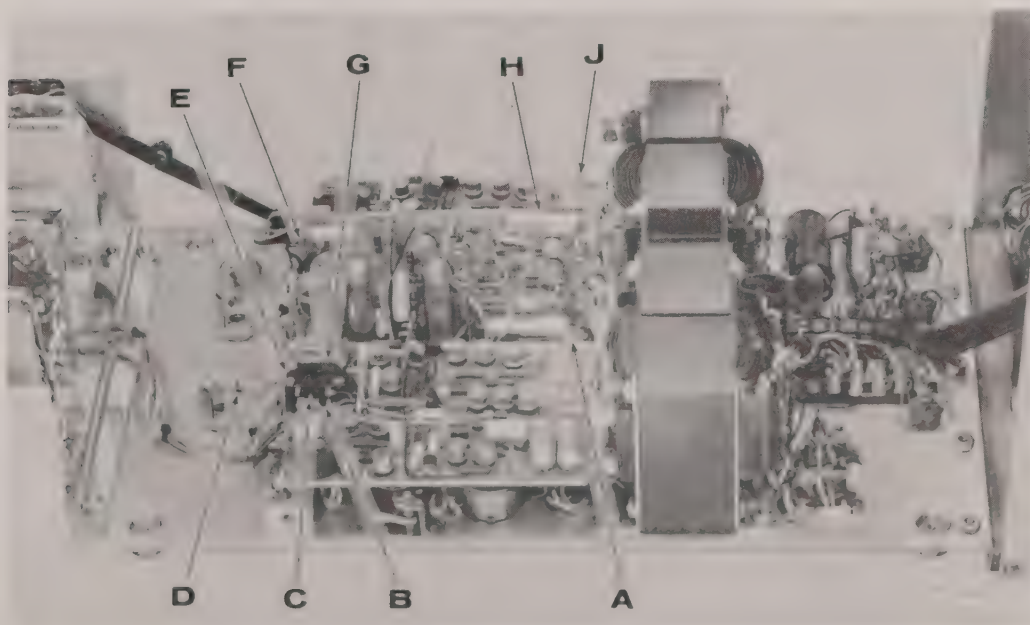
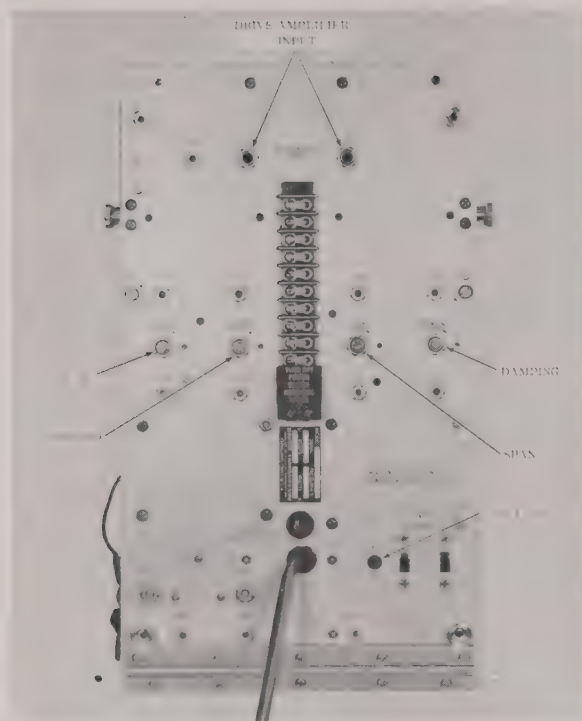
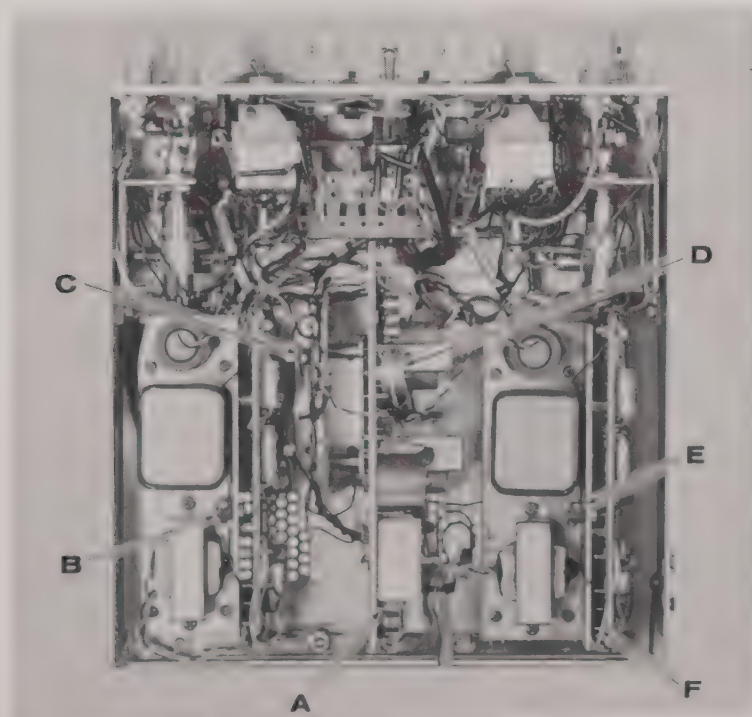

FIGURE 7-1 PRELIMINARY ADJUSTMENT POINTS AND POWER SUPPLY POINTS
FIGURE 7-2 REAR PANEL CALIBRATION POINTS
FIGURE 7-3 CALIBRATION TEST POINTS
3. Set the 25 volt adjustment control (A, Fig. 7-1) to its maximum counterclockwise position.
4. Set the I_{CO} BALANCE control (B, Fig. 7-1) to mid-range (7.5 turns).
5. Set the INTERNAL POSITION control (E, Fig. 7-1) to about mid-range (7.5 turns).
6. Set the CRS DAMP controls (G, Fig. 7-1) to about mid-range (7.5 turns).
7. Press chart speed OFF button and attach a voltmeter from either of the 1/8 amp fuses to point D (Fig. 7-1).
8. Turn on main POWER switch and set 26 volt adjustment control (A, Fig. 7-1) for -26 ± 0.5 volts.
9. Attach a voltmeter from point D to point F (Fig. 7-1) and adjust 20 KC level control (H, Fig. 7-1) for 7.0 ± 0.2 volts, RMS.
11. Attach a voltmeter from point D to point J (Fig. 7-1) and set EQUAL OVER control (C, Fig. 7-1) for approximately -13 volts d-c.
2. While shorting and unshorting the drive amplifier inputs (Fig. 7-2) adjust the I_{CO} balance control (B, Fig. 7-1) until there is a minimum of pen movement.
Insert a shorted phone plug into the drive amplifier (Fig. 7-2) and adjust the INTERNAL POSITION control until pen is exactly at chart center.
2. Adjust the span controls (Fig. 7-2) for a deflection of exactly 25 divisions.
2. Switch frequency to 100 cycles and adjust the DAMPING control (Fig. 7-2) until the trace amplitude is exactly 10 divisions.
4. Switch frequency to 55 cycles and adjust CRS DAMP control (G, Fig. 7-1) until 5.5 and 55 cycle amplitudes are equal.
1. Adjust EQUAL OVER control (C, Fig. 7-1) until negative and positive overshoot patterns of a 10 div. square wave are similar.
3. Set ATTENUATOR at 0.5 millivolt/line. Adjust PHASING control (D, Fig. 7-3) for maximum peak pen deflection, on each channel.
4. Adjust preamplifier GAIN controls (B and E, Fig. 7-3) for exactly 20 divisions left pen deflection.
2. Connect a preamp input to the "Cal 1 volt" jack (Fig. 7-2) and adjust the calibration control (C, Fig. 7-3) for 20 divisions left pen deflection ± 0.1 division.